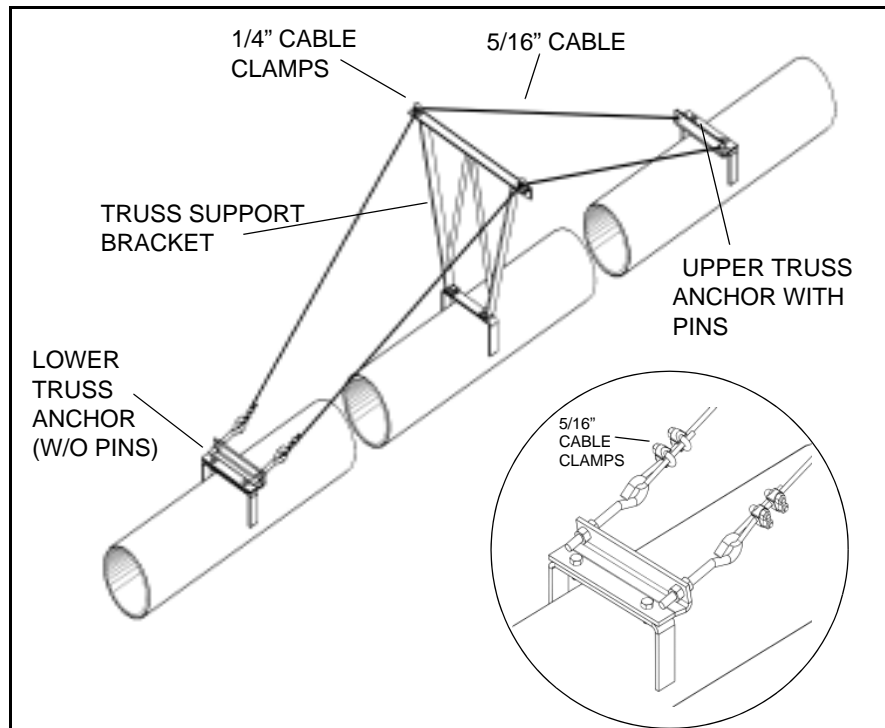

Figure 3.8 Truss Assembly
- ➔ **46' and 51' Augers Only** (Figure 3.8):